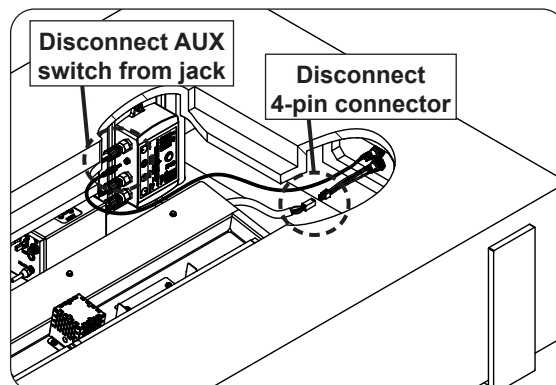

Fig. 25-3 Disconnect AUX switch and connector
3. Disconnect the AUX switch and the 4-pin connector (see Fig. 25-3).